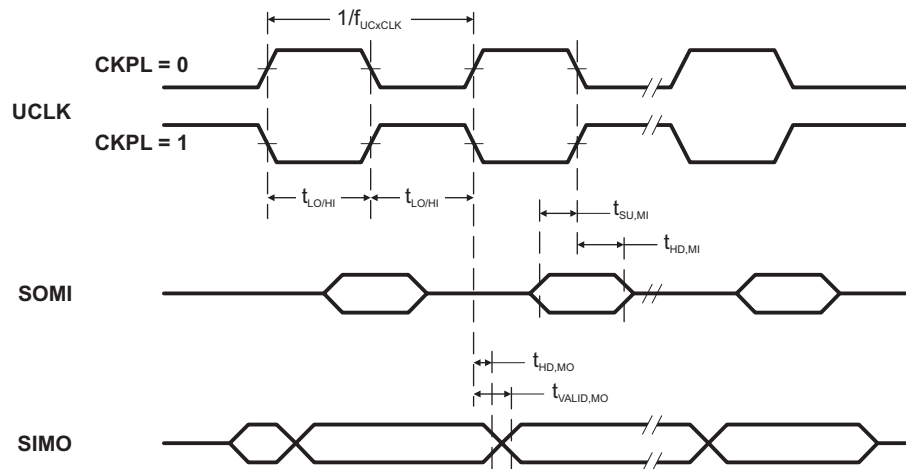
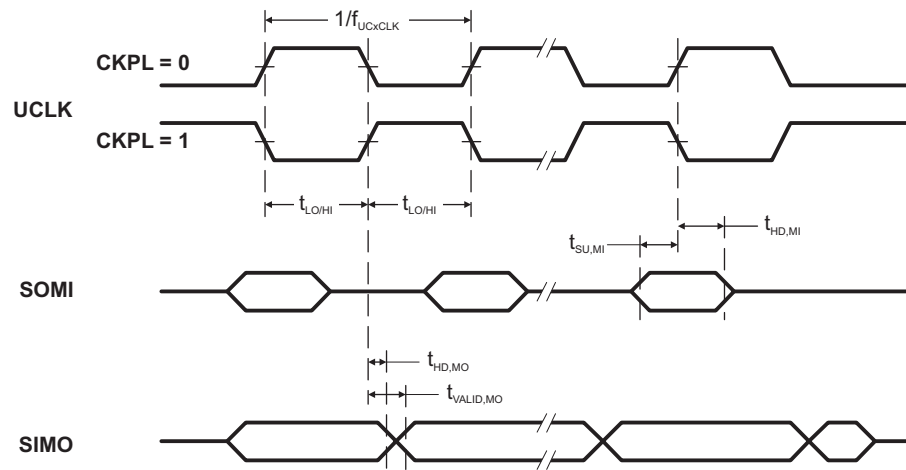

Figure 17. SPI Master Mode, CKPH = 0
Figure 18. SPI Master Mode, CKPH = 1
(see Note ⁽¹⁾, Figure 17 and Figure 18)
- (1) f_{UCxCLK} = 1/2t_{LO/HI} with t_{LO/HI} ≥ max(t_{VALID,MO}(USCI) + t_{SU,SI}(Slave), t_{SU,MI}(USCI) + t_{VALID,SO}(Slave)). For the slave's parameters t_{SU,SI}(Slave) and t_{VALID,SO}(Slave) see the SPI parameters of the attached slave.
- (2) Specifies the time to drive the next valid data to the SIMO output after the output changing UCLK clock edge. See the timing diagrams in Figure 17 and Figure 18.
- (3) Specifies how long data on the SIMO output is valid after the output changing UCLK clock edge. Negative values indicate that the data on the SIMO output can become invalid before the output changing clock edge observed on UCLK. See the timing diagrams in Figure 17 and Figure 18.
(2) Specifies the time to drive the next valid data to the SOMI output after the output changing UCLK clock edge. See the timing diagrams in Figure 17 and Figure 18.
(3) Specifies how long data on the SOMI output is valid after the output changing UCLK clock edge. See the timing diagrams in Figure 17 and Figure 18.